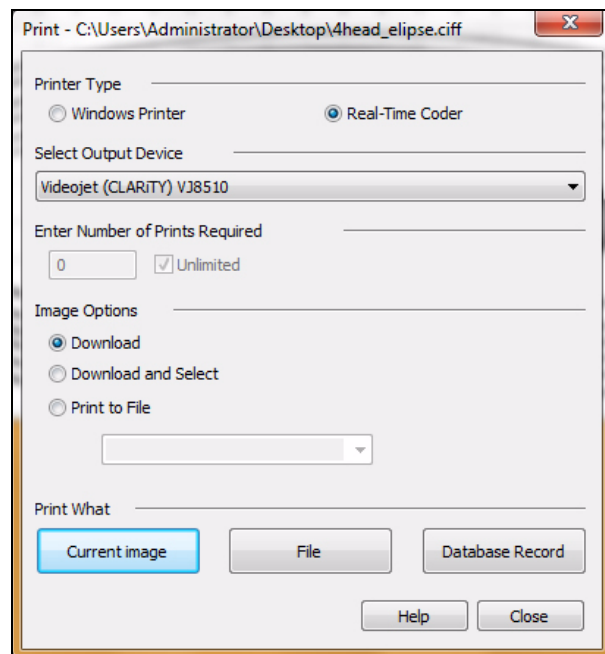

Figure 6-3: Select Output Device
- 2 Click the Printer icon from the toolbar in CLARiSOFT®. Printer name appears in the *Select Output Device* list box. The file name is displayed in the title bar of the dialog box (see Figure 6-3 on page 6-4).